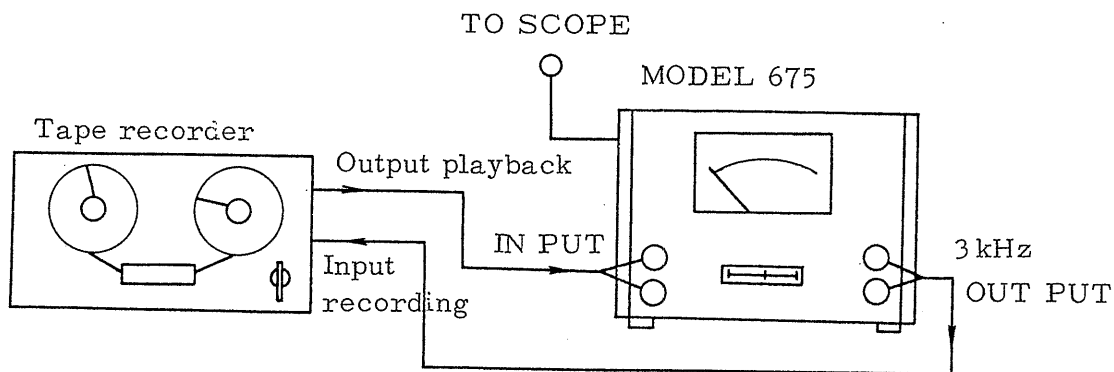

Fig. 3-3 Wiring diagram of wow and flutter measurement in tape recorder
- 1) The wiring diagram shown in Fig. 3-3 is applicable to all of the following measuring methods: